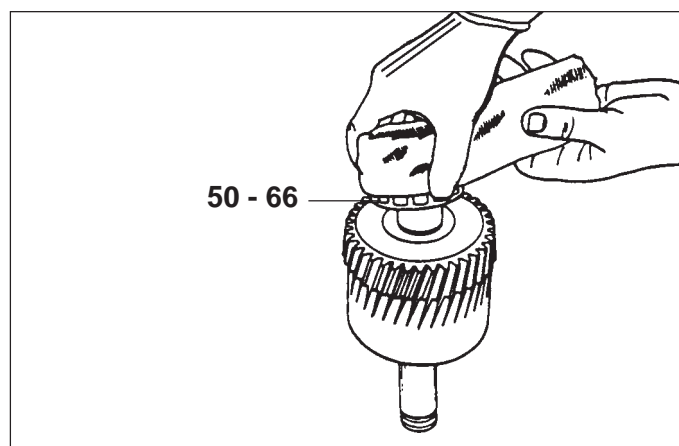

Fig. 29
- 9) Montare le ralle interne dei cuscinetti (66)x2 (50) e (79) riscaldandole a circa 100° C (Fig. 29).
- 10) Montare le fasce elastiche (81) e la vite (82) utilizzando del liquido frenafretili del tipo LOCTITE 542.
- 9) Install inner race bearings (66)x2; (50) and (79) by heating them to about 100°C (Fig. 29).
- 10) Install piston rings (81) on shaft. Spread a small amount of sealing liquid (Loctite 542) on screw (82) then install it on shaft.